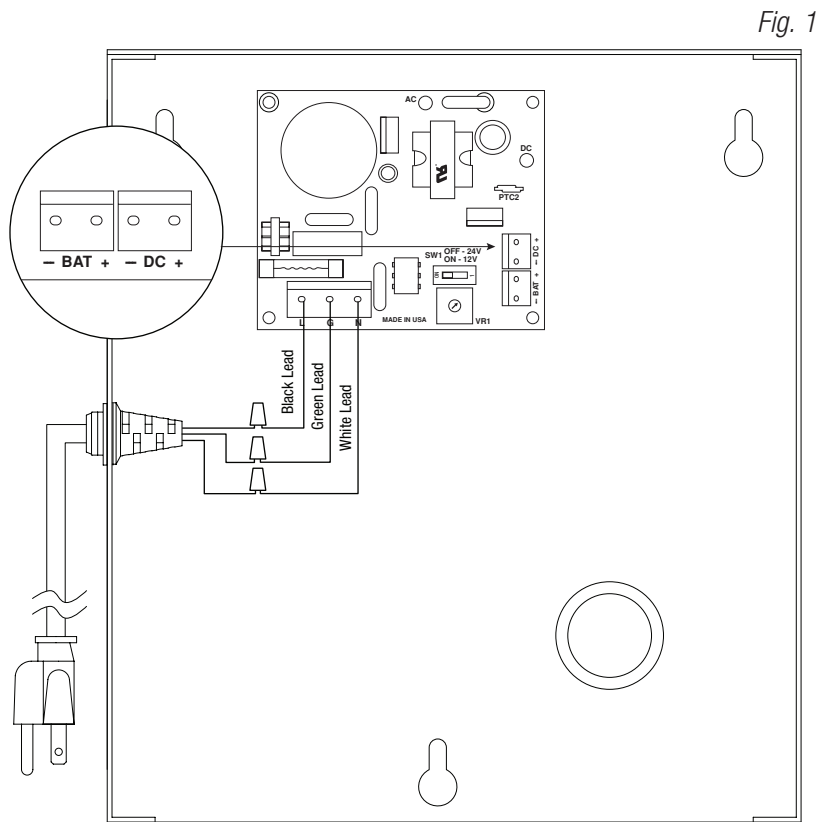

Fig. 1
5. Connect devices to be powered to the terminals marked [- DC +] (*Fig. 1*) carefully observing polarity. Use 18 AWG or larger for all power connections (Battery, DC output).
6. When the use of stand-by batteries is desired, they must be lead acid or gel type. Connect battery to the terminals marked [- BAT +] (*Fig. 1*). Use two (2) 12VDC batteries connected in series for 24VDC operation.